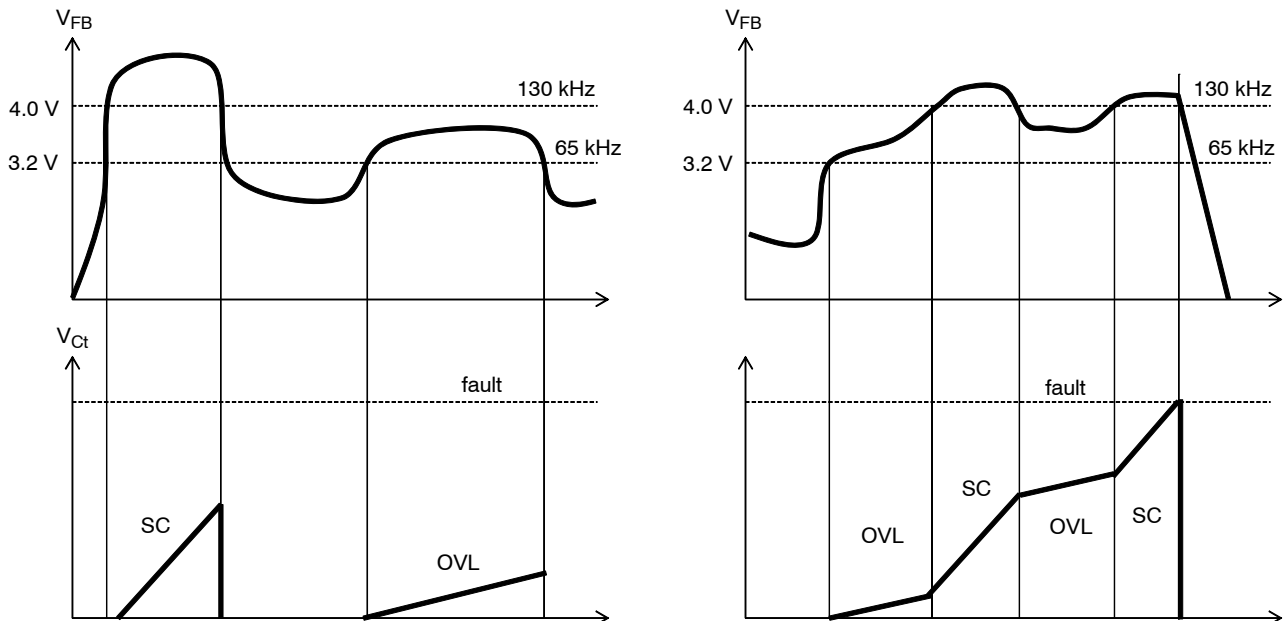

Figure 19.
2.4 V. When the maximum peak current situation is lifted, the converter returns to a normal situation, the timer is reset. The short circuit situation is detected by sensing a feedback voltage beyond 4 V. For the sake of the explanation, we have gathered two different events in Figure 19: